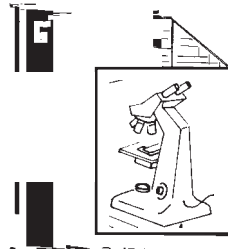

Fig. 9.2
- Store the microscope in a cabinet fitted with an electric bulb (5 W or 40 W) which is switched on in order to reduce humidity (Fig. 9.2).